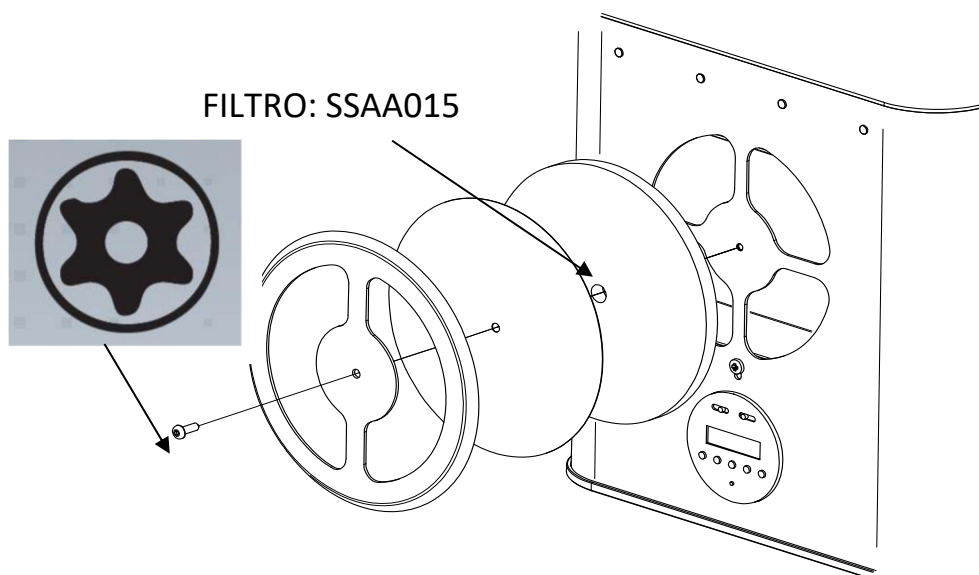

Fig.7
2. Remove the front of the vent where the filter is housed. (Fig.7)
4. Put the front of the vent back on in the order shown in Fig.7.